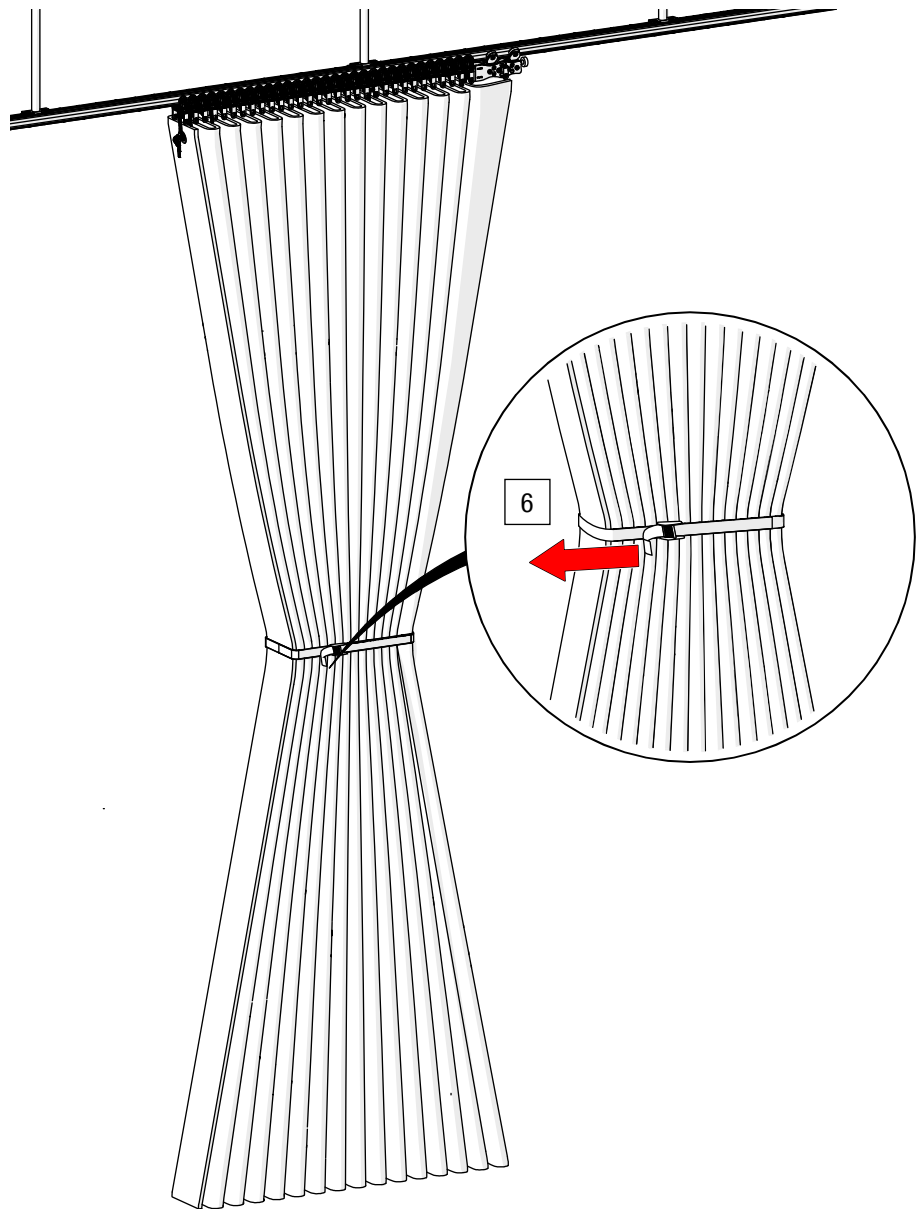

Fig. 107: Inner layers – Tie together in a folded state
6. Drape the inner layers into pleats and tie them together with a lashing strap (see Fig. 107).